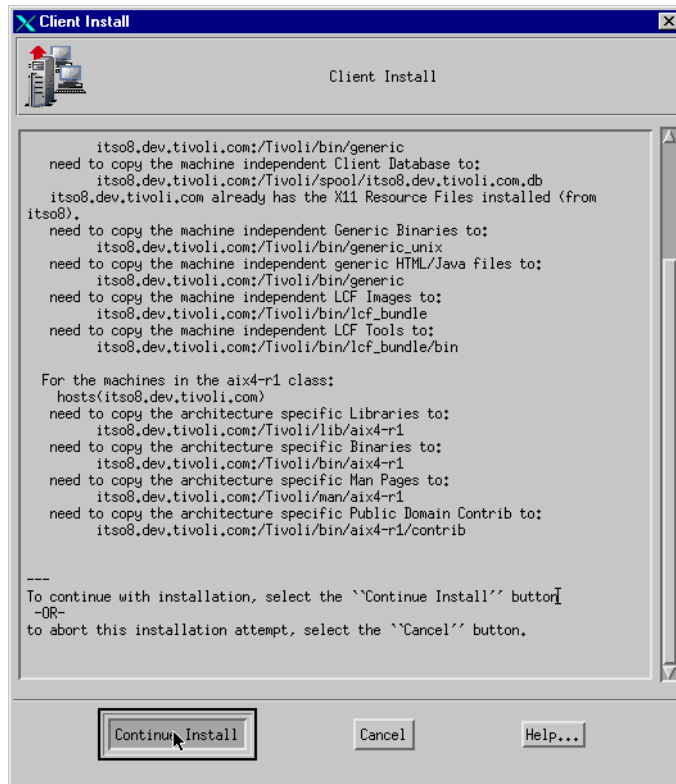

Figure 45. Client Install confirmation
14. In the next window, shown in Figure 45 on page 62, click **Continue Install** to begin the actual process.